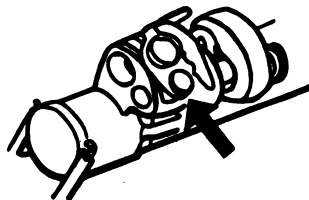

Figure 9
9. Remove the tracker lens cover and secure to tracker forward shock absorber. Make rapid visual inspection of tracker lens for damage or obstructions (fig. 9).